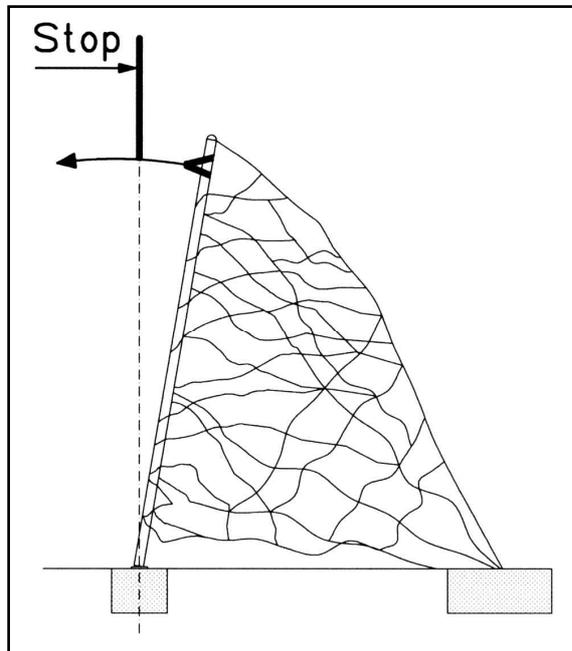

Figure 3
When raising the mast it is essential to ensure that you pull the mast, not the net. To raise the mast, use a cable pull (10 KN tensile force). The mast, including the netting, should be raised carefully. Please note that the mast does not tip over aside. Make a balance of forces while you moved the ropes by hand to the foundations 2 and 5. In particular, it should be ensured that the mast plate is in the mast tube and is not pulled out and that the foot of the mast is pulled onto the round plate. The mast should be raised until it is in a vertical position. Do not pull the mast with the cable pull over and above the vertical in the direction of the tension rods (see figure 3). The connections with **foundation 2, 5 and 1** is now created. Pulling the netting to the tension rods is made easier with the aid of a crowbar, which should be placed in the curved clevis, as a result of the lever action.
**When putting the mast up and when stretching the space network make sure absolutely that the mast is not pulled beyond the vertical (figure 3)!**
**Pull only at the mast, not at the space net (figure 3)!**